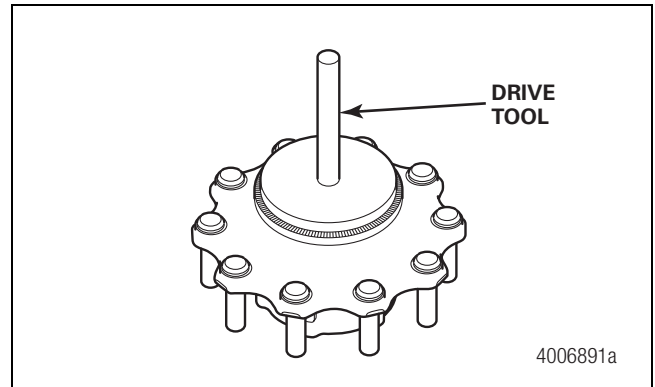

Figure 4.36
5. If the hub was originally equipped with a secondary seal, install a new one. Figure 4.36.